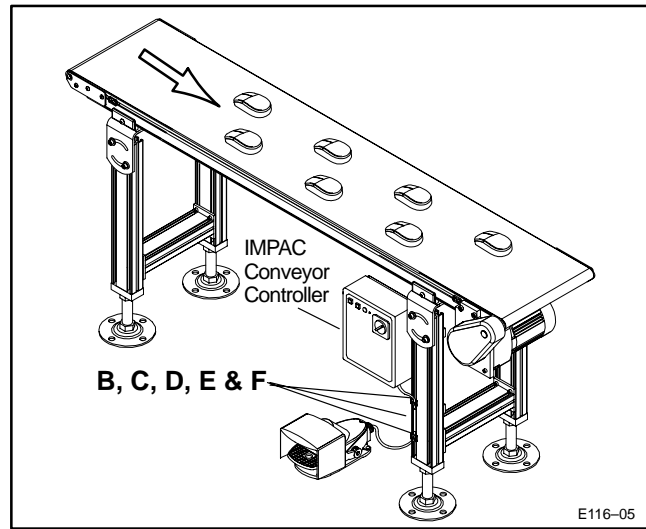

Figure 5: Foot Switch Cable Routing to *impac* Conveyor Controller
- e. Figure 5 shows a typical wire routing of a Foot Switch connection to an *impac* Conveyor Controller using the Conveyor's Support Stand Leg T-slot with both T-slot Cover Strips and Zip Ties (E).